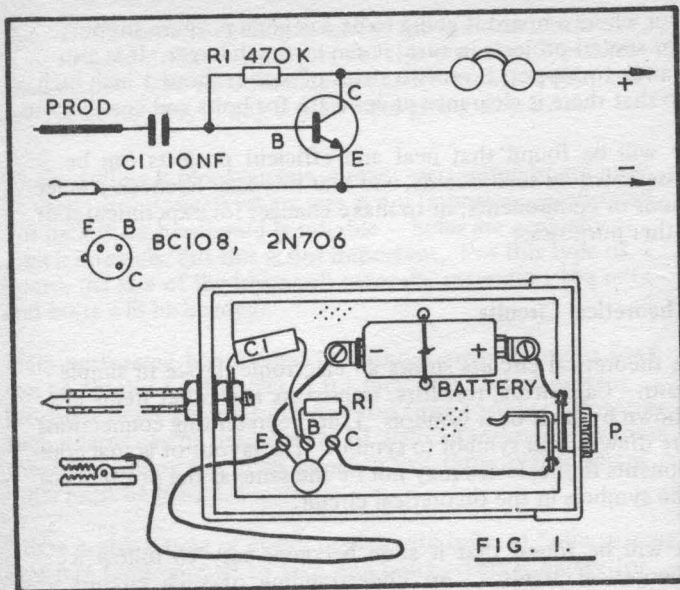

FIG. 1.
The Signal Tracer in Fig. 1 is an example of this. The main item here is the transistor, which has emitter (E), base (B) and collector (C) wires. For the transistors shown, these wires come from the base as in the diagram, which is of the underside of the transistor. (Emitter, base and collector wires may be in different positions in other transistors.) It will be seen that the emitter E is connected to negative at the battery, and to a clip on a length of flexible wire.
It is clear, from Fig. 1, how the theoretical circuit is made up as a practical piece of equipment, with C1, R1, transistor, phones and battery connected together in the way required.
This locates and amplifies audio (sound) signals which may be present in a circuit. Construction is most easily carried out in a small plastic case (Fig. 1). An insulated board about $1\frac{1}{4} \times 2$ inch (or to suit the case) has three small bolts to secure emitter, base and collector leads of the transistor. Bolts also hold two small brackets, which press on the negative and positive ends of the 9v battery. String or elastic through holes in the board helps to secure the battery.
Battery and external leads are generally of flexible wire. Positive and negative battery clips, with leads already attached, are available for transistor radio and similar batteries. Elsewhere it may be convenient to arrange contacts as in Fig. 1, or to twist wires to the battery tags.